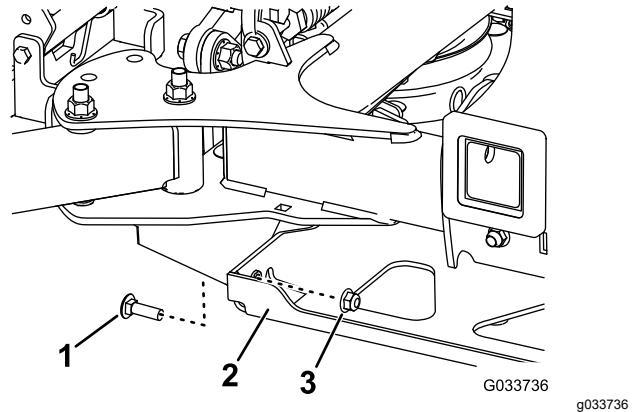

Figure 84
4. Remove the 2 bolts and 2 nuts connecting the strut bracket to the frame (Figure 84).
4. Install the 2 bolts that you retained to connect the strut bracket to the frame (Figure 84).